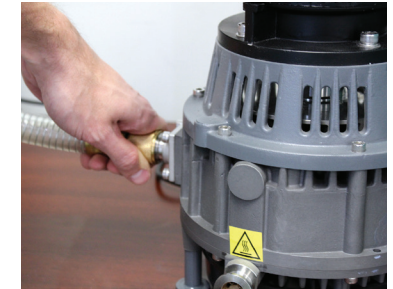

FIGURE 6
1. Connect the large hose to the vacuum pump and to the freeze dryer, and tighten (See Figure 6). Do not add any additional Teflon tape, or any type of adhesive, when installing the vacuum hose. Doing this almost always creates a vacuum leak.